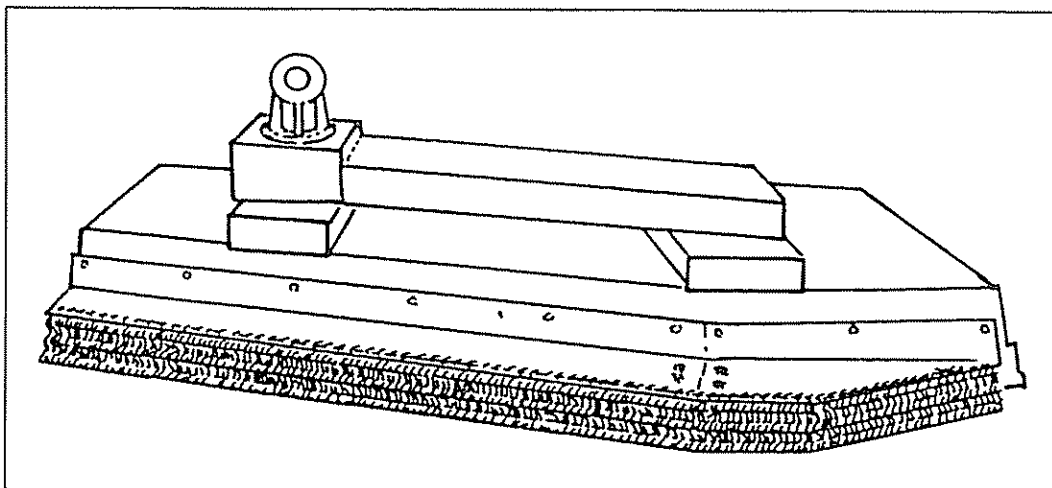

FIGURE 14
1. Attach the right and left chainguard assemblies to the mower with 9 - 1/2" x 1-1/4" bolts, 9 - 1/2" flatwashers and 9 - 1/2" locknuts as shown in figure 14.
2. Attach the right and left chainguard assemblies together with the rear chainguard tie bar using 4 - 1/2" x 1-1/4" bolts, 4 - 1/2" flatwashers and 4 - 1/2" locknuts as shown in figure 14.